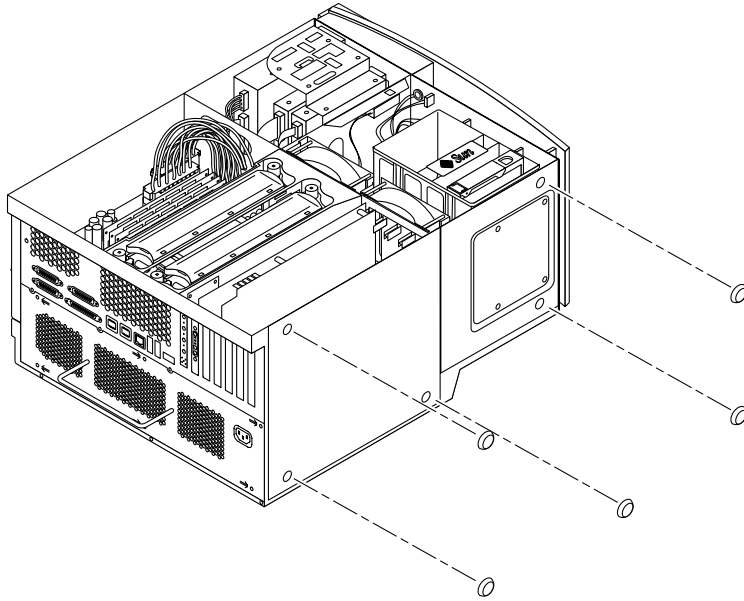

FIGURE 6-17 Removing and Replacing the Chassis Foot
- **Use a flat-tipped tool to pry the foot from the chassis (FIGURE 6-17).**
1. Using a cloth rag and cleanser, clean the chassis area where the foot is to be mounted (FIGURE 6-17).